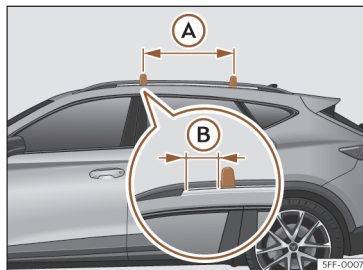

Fig. 185 Attachment points for the roof railings for the roof carrier system.
The crossbars are assembled on the roof railings. The distance between crossbars >>> Fig. 185 (A) should be between 70 and 90 cm and the distance between the crossbars and the brackets of the roof railings (B) must be 9 cm.